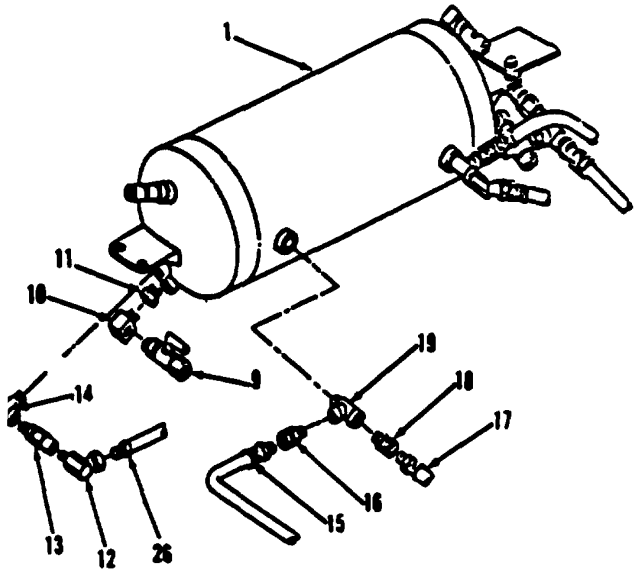
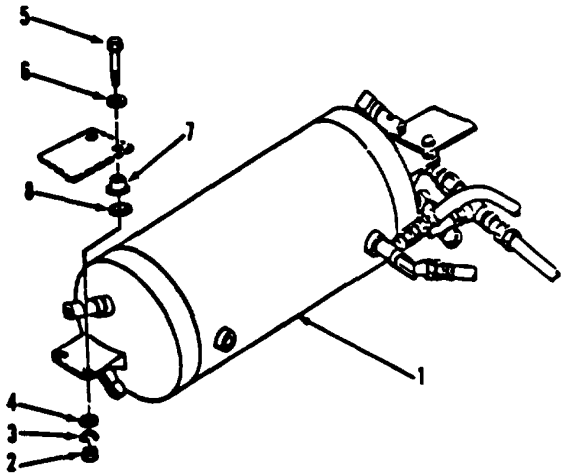

Figure 6-25.
Figure 6-24.
- 10. Install tee (19) and connector (18) in reservoir (1, Figure 6-25).
- 11. Connect hose assembly (17).
- 12. Install connector (16).
- 13. Connect hose assembly (15).
- 14. Install elbow (14), valve (13) and elbow (12).
- 15. Connect hose assembly (26).
- 16. Install bushing (11), fitting (10) and drain cock (9).
- 17. Position four washers (6) and bolts (5, Figure 6-24) in frame weldments under rear of vehicle.
- 18. Install reservoir (1), four washers (8), grommets (7), washers (6), bolts (5), washers (4 and 3) and nuts (2).